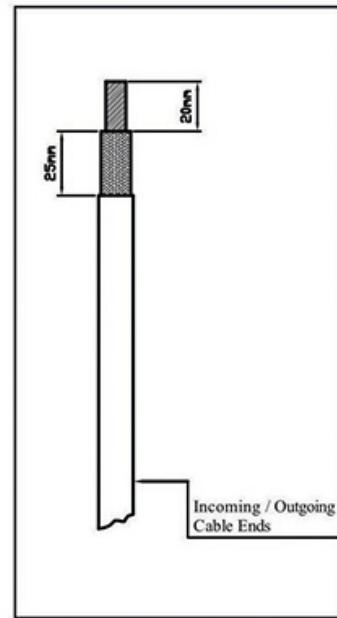

Fig:4
3. Prepare in coming and out going cables as shown in (see Figure 4).